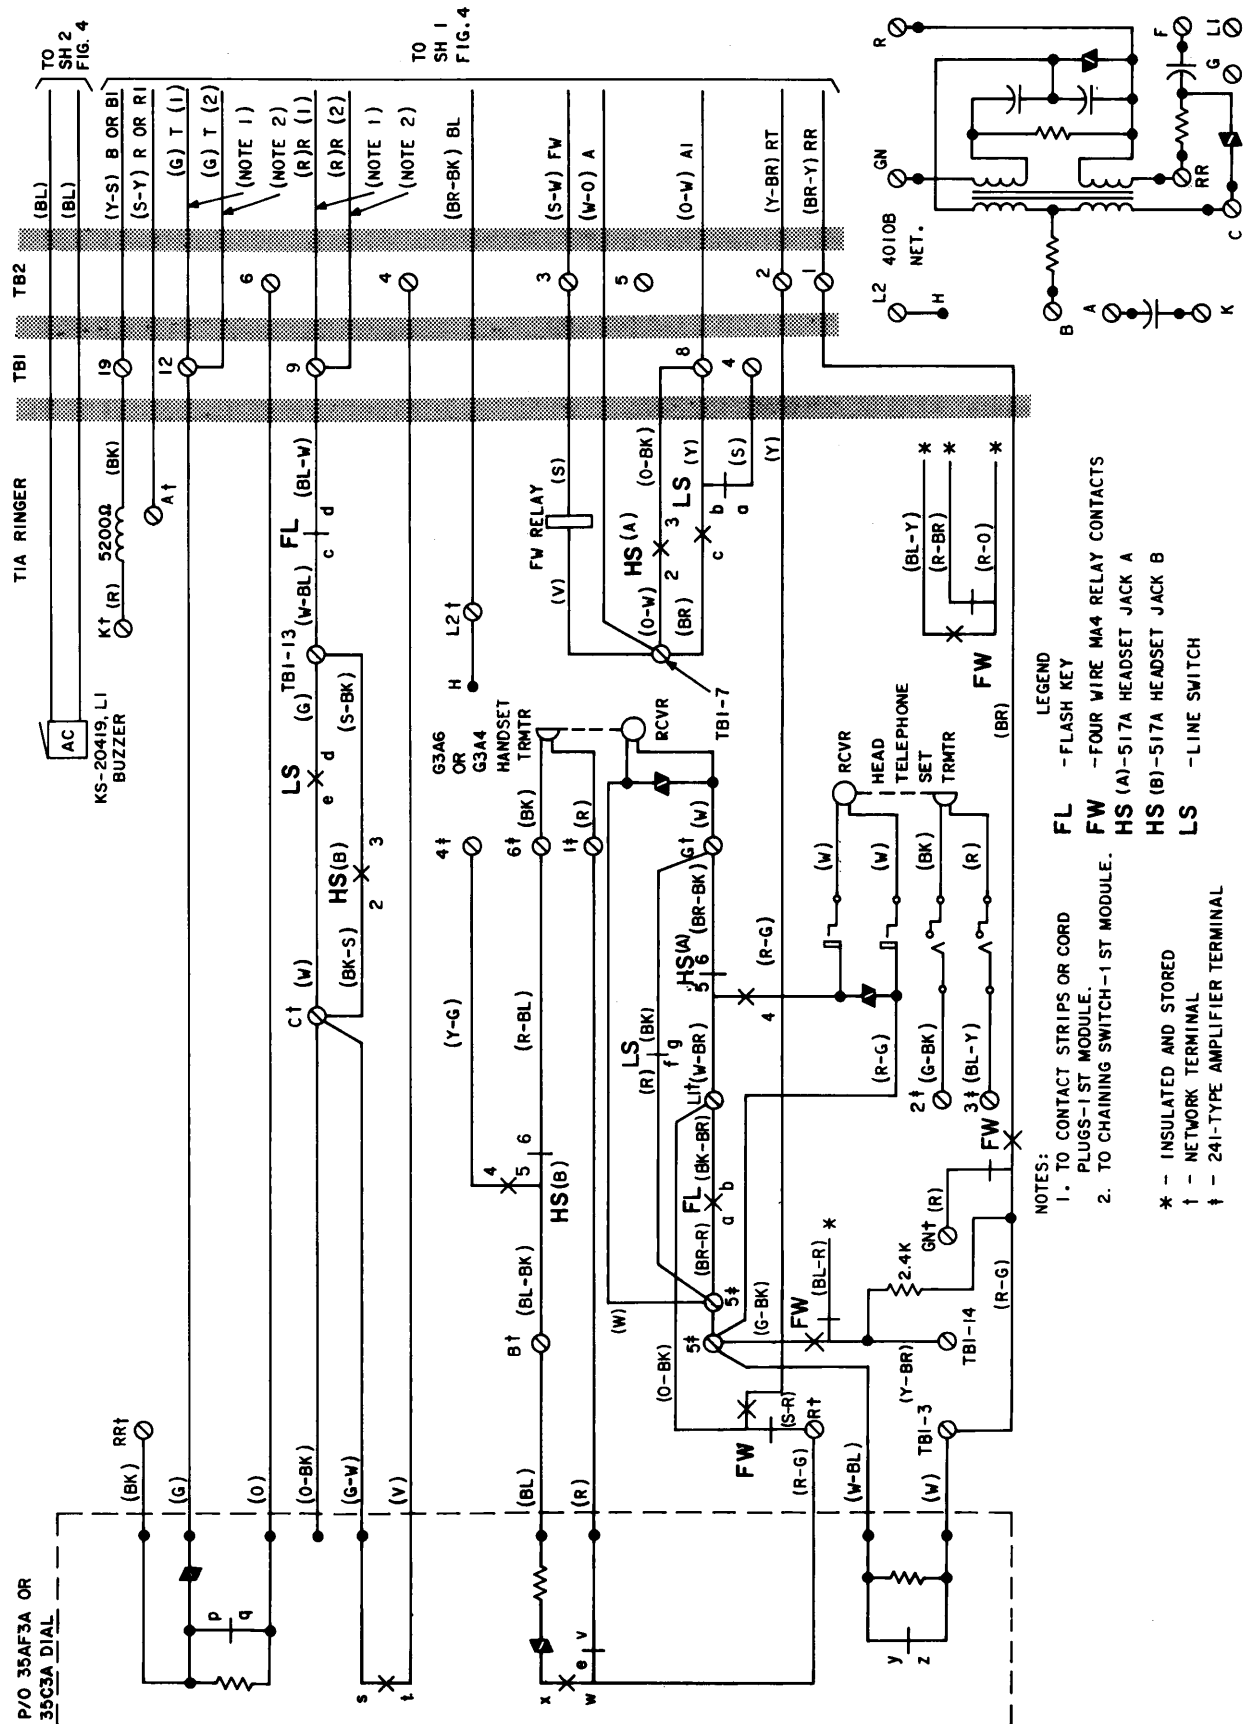

Fig. 1—2682AA and 2683AA Telephone Set, Connections
1.03 These sets (Fig. 1, 2, 3, and 4) provide headset or handset operation.